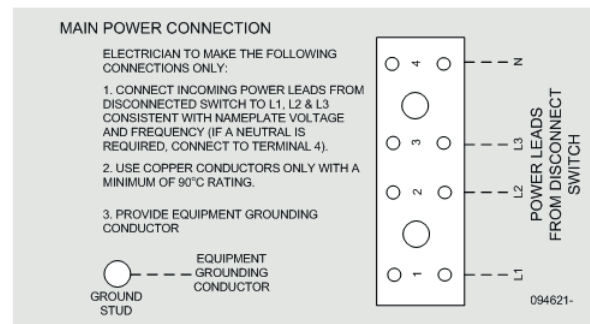

Figure 3-3 Sample Label
- Refer to the label in the electrical box to configure your chiller, see Figure 3-3.
- Refer to the label in the electric box to configure you chiller, see Figure 3-3